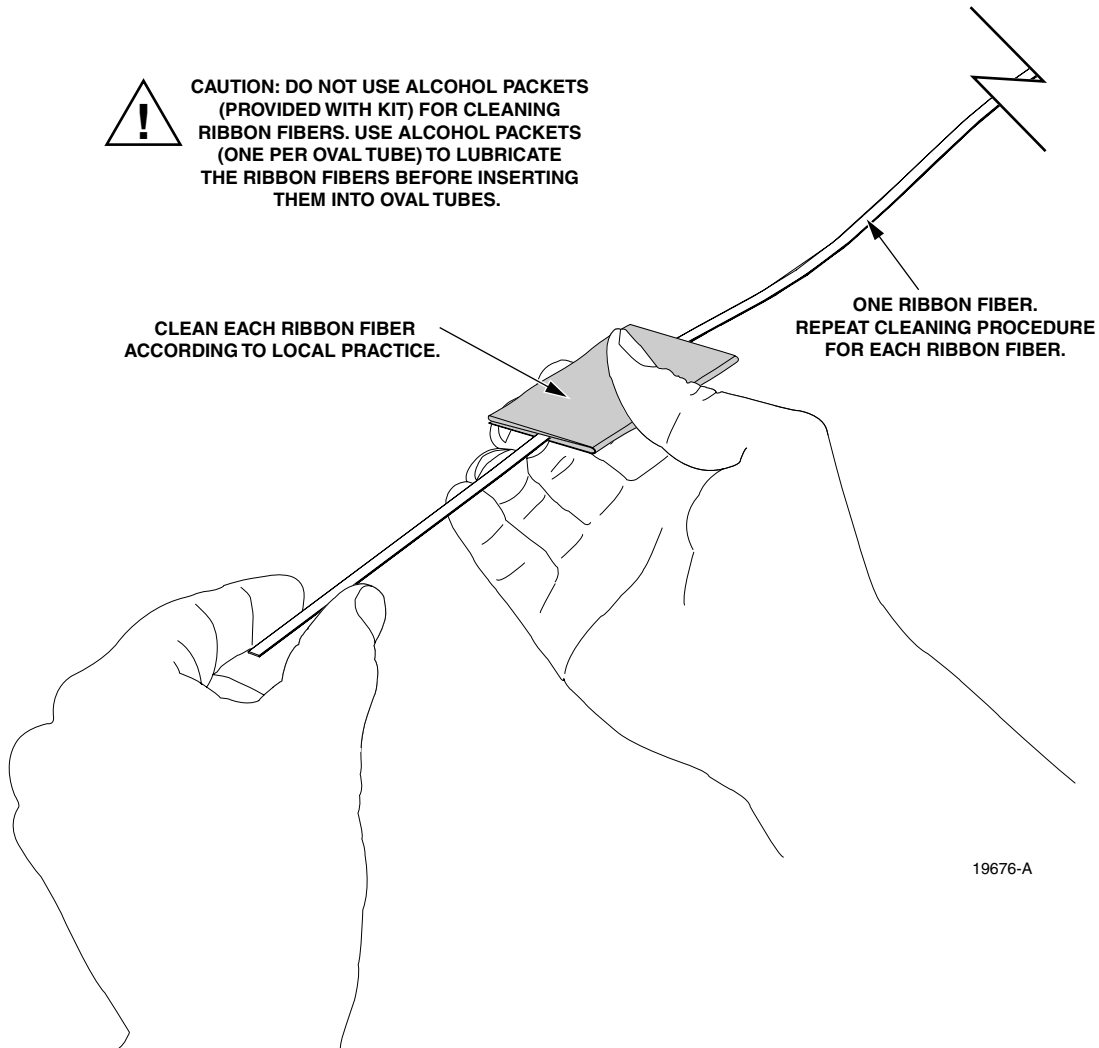

**Figure 32. Place Tape on End of Central Tube**
3. Place black strip tape (provided) around entire end of central tube (Figure 32).